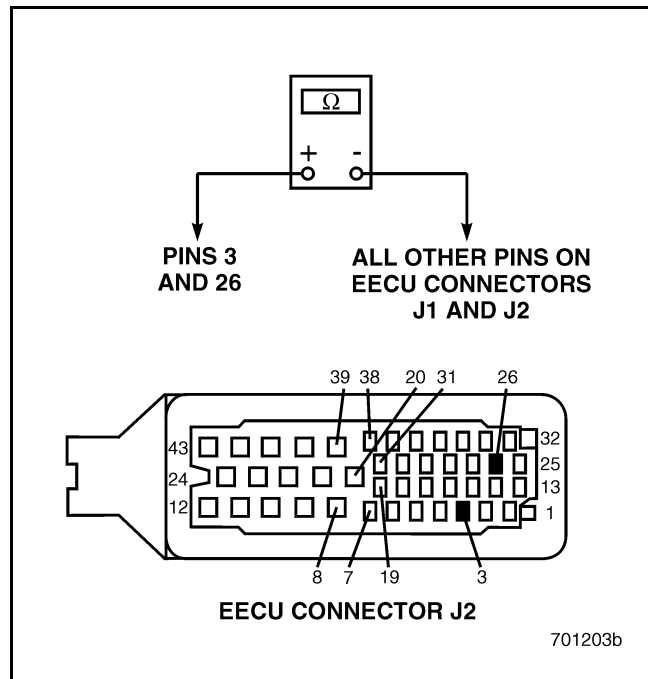

Figure 106
4. Check for continuity between Engine Electronic Control Unit (EECU) connector J2 pins 3 and 26 versus all other pins on EECU connectors J1 and J2 (see Figure 106).